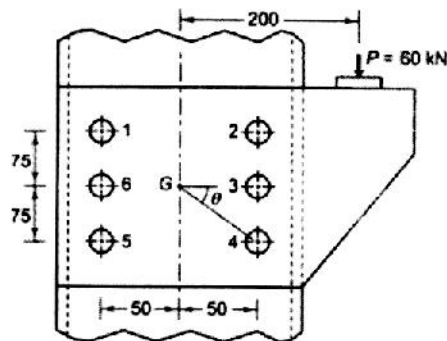

Figure Q2a
2. a) A bracket is bolted to a column by 6 bolts of equal size as shown in Figure Q2a. It carries a load of 60 kN at a distance of 200 mm from the center of the column. Allowable shear stress in the bolts is to be limited to 150 N/mm². Select appropriate standard bolt size from the given table. [15]